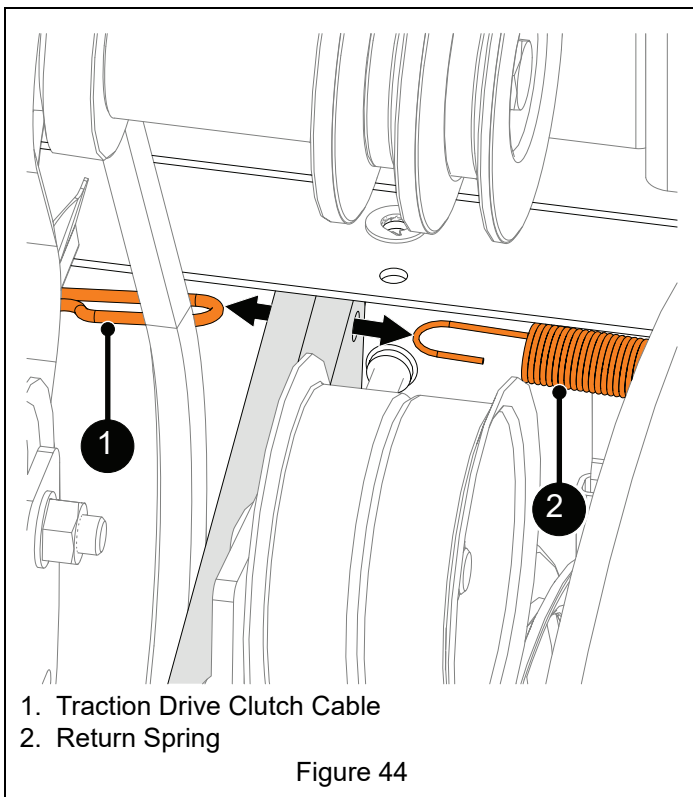

Figure 44
7. Disconnect traction drive clutch cable and return spring from swing gate. See Figure 44.
8. Reconnect traction drive clutch cable and return spring to swing gate. See Figure 44.